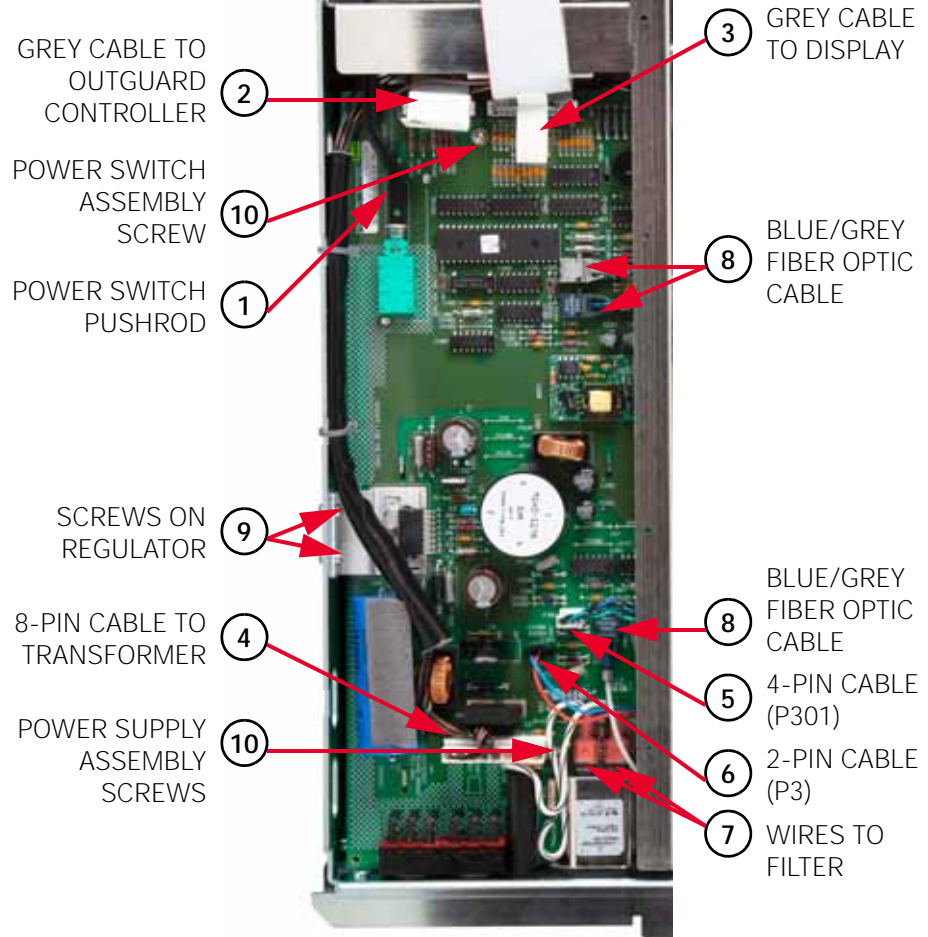
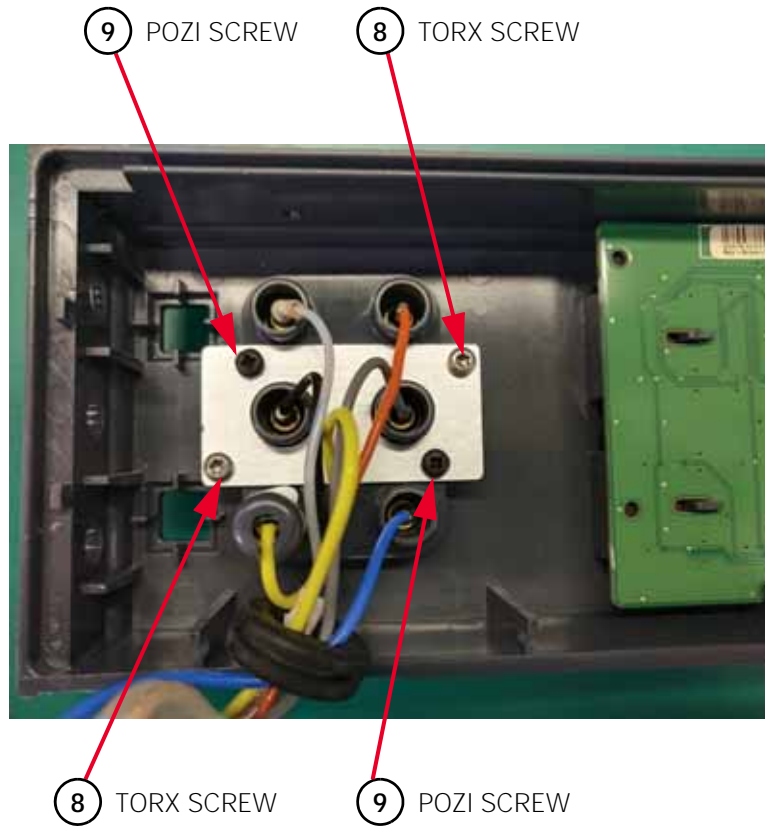

Figure 3-15 Outguard power supply assembly removal/installation
Figure 3-19 Remove/Install screws on front terminals
Refer to Figure 3-15 for the following procedures.
The label numbers in Figure 3-15 and Figure 3-19 show the order of assembly removal. Use reverse order for installation.
- 11 Refer to Figure 3-19. Use the #TX10 Torx driver to remove the two Torx screws from the front terminals. Then use a #1 Pozidriv screwdriver to remove the two Pozidriv screws from the front terminals. This removes the front terminals from the Front Panel assembly.
- 6 Refer to Figure 3-19. Use the #TX10 Torx driver to install the two Torx screws on the front terminals. Then use a #1 Pozidriv screwdriver to install the two Pozidriv screws on the front terminals.